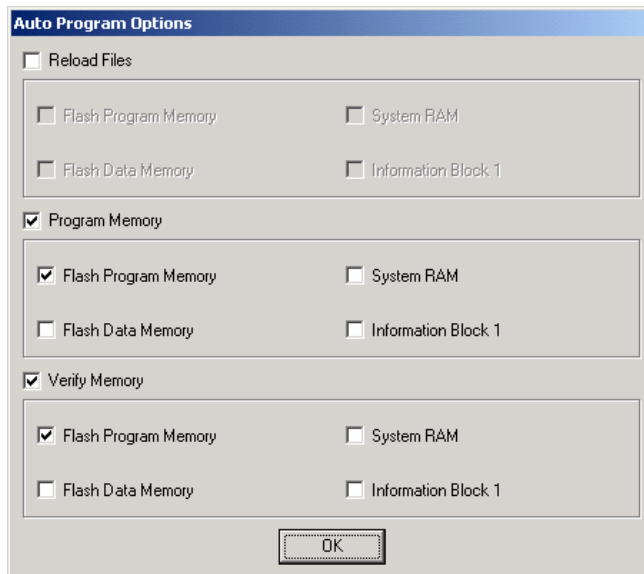

Figure 6-19. Auto Program Options Dialog Box
2. **Review Auto Program Options.** The dialog box that opens shows the current "Auto Program" settings. By default, programming and verifying are enabled for the Program Flash Memory, as shown in Figure 6-19.